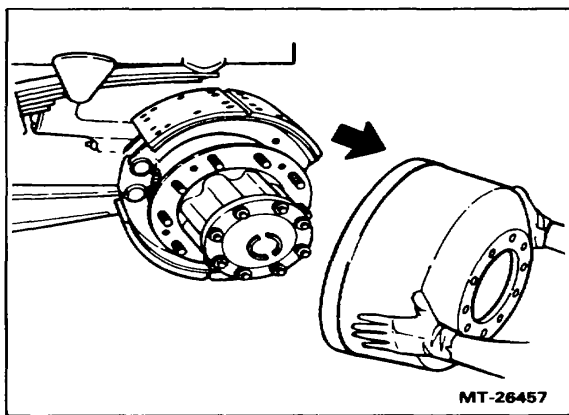

Figure 12. - Remove Drum Assembly
7. The brake drum can now be removed, if outboard mounted (Figure 12). The brakes can now be serviced after the wheel and tire assembly has been removed.